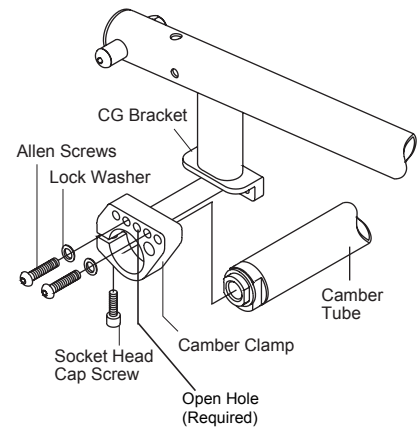

Figure 65
2. Remove the four Allen Screws (two on each side of the chair) that secure the Camber Clamps to the CG Bracket. See Figure 65.